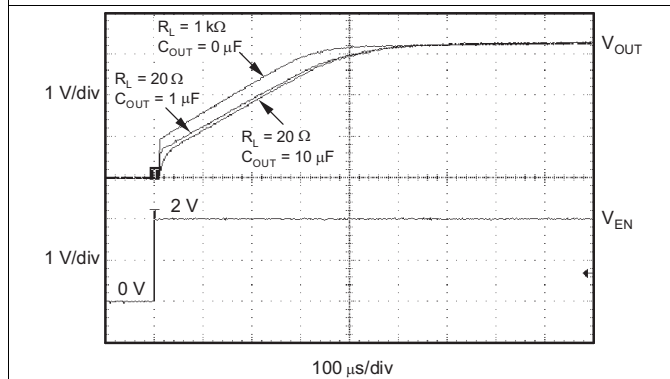

Figure 21. TPS73133 Turnon Response
The enable pin (EN) is active high and is compatible with standard TTL-CMOS levels. A V_{EN} below 0.5 V (maximum) turns the regulator off and drops the GND pin current to approximately 10 nA. When EN is used to shutdown the regulator, all charge is removed from the pass transistor gate, and the output ramps back up to a regulated V_{OUT} (see Figure 21).